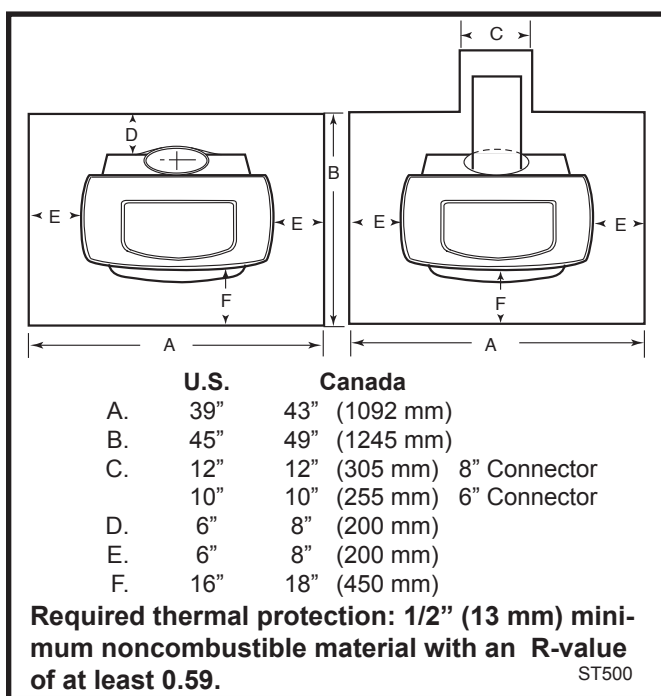

Fig. 12 Required floor protector dimensions for both top and rear-exiting stove.
**U. S. installations** the floor protector is required under the stove and must extend at least 16" (not including the ash lip) from the front of the stove ("F", Fig. 12), and at least 6" from the sides and rear. ("D" and "E", Fig. 12) It must also extend under the chimney connector and 2" to either side. ("C", Fig. 12) For the 8" (203 mm) connector, the protector must be a minimum of 12" (305 mm) wide. For the 6" (152 mm) connector, the protector must be 10" (254 mm) wide. The protector must be centered under the connector.
**In Canada:** A noncombustible floor protector is required under the stove as well. The floor protector must extend 18" (450 mm) to the front ("F", Fig. 12), and 8" (200 mm) from the sides and rear. ("D" and "E", Fig. 12)
Floor protection also must extend under the chimney connector and 2" (51 mm) to either side. ("C", Fig. 12) For the 8" (203 mm) connector, the protector must be a minimum of 12" (305 mm) wide. For the 6" (152 mm) connector, it must be at least 10" (254 mm) wide. The protector must be centered under the connector.